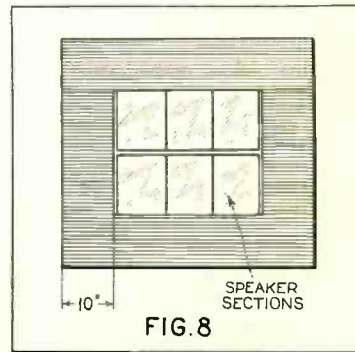

FIG. 8
**A. Baffles:** The performance of any loudspeaker is improved by use of an appropriate baffle. The Kyle reproducer requires less additional baffle than a small cone because its own area acts as a partial baffle. To reproduce satisfactorily the lowest frequencies of which the speaker is capable it is desirable to have a baffle which adds a margin of at least 10 inches around the edge of the reproducing unit. This may be in the form of a rectangular box as shown in Fig. 7 or flat as shown in Fig. 8.